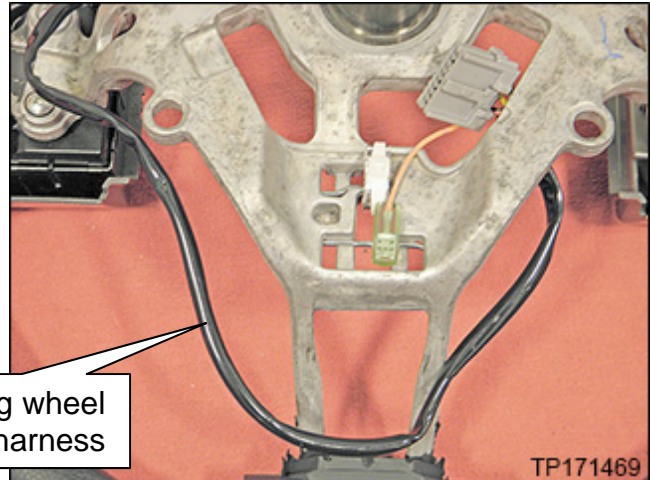

Figure 18
17. Route the steering wheel switch harness as shown in Figure 18.